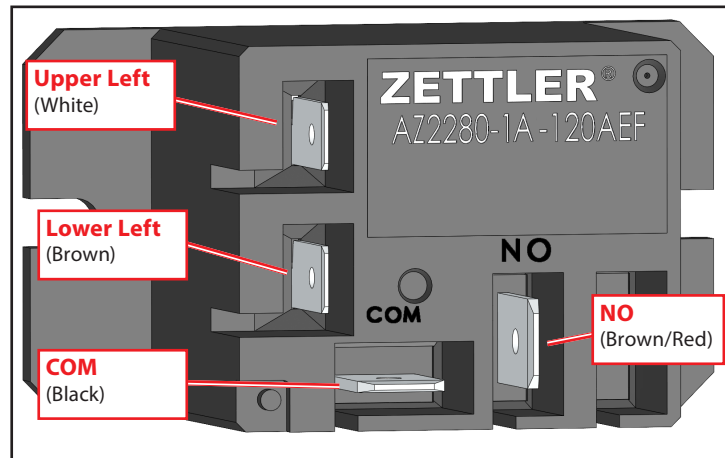

Fig. 1. Provided wire locations on the provided relay terminals.
1. Connect the provided wires to the provided relay as follows (see fig. 1):